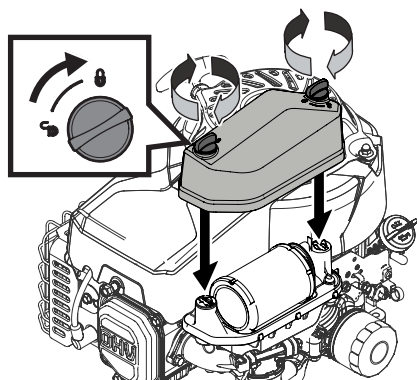

Figure 14
7. Attach the air filter cover (Figure 14). Turn thumb screws clockwise a 1/4 turn until snug. Check for any misalignment.